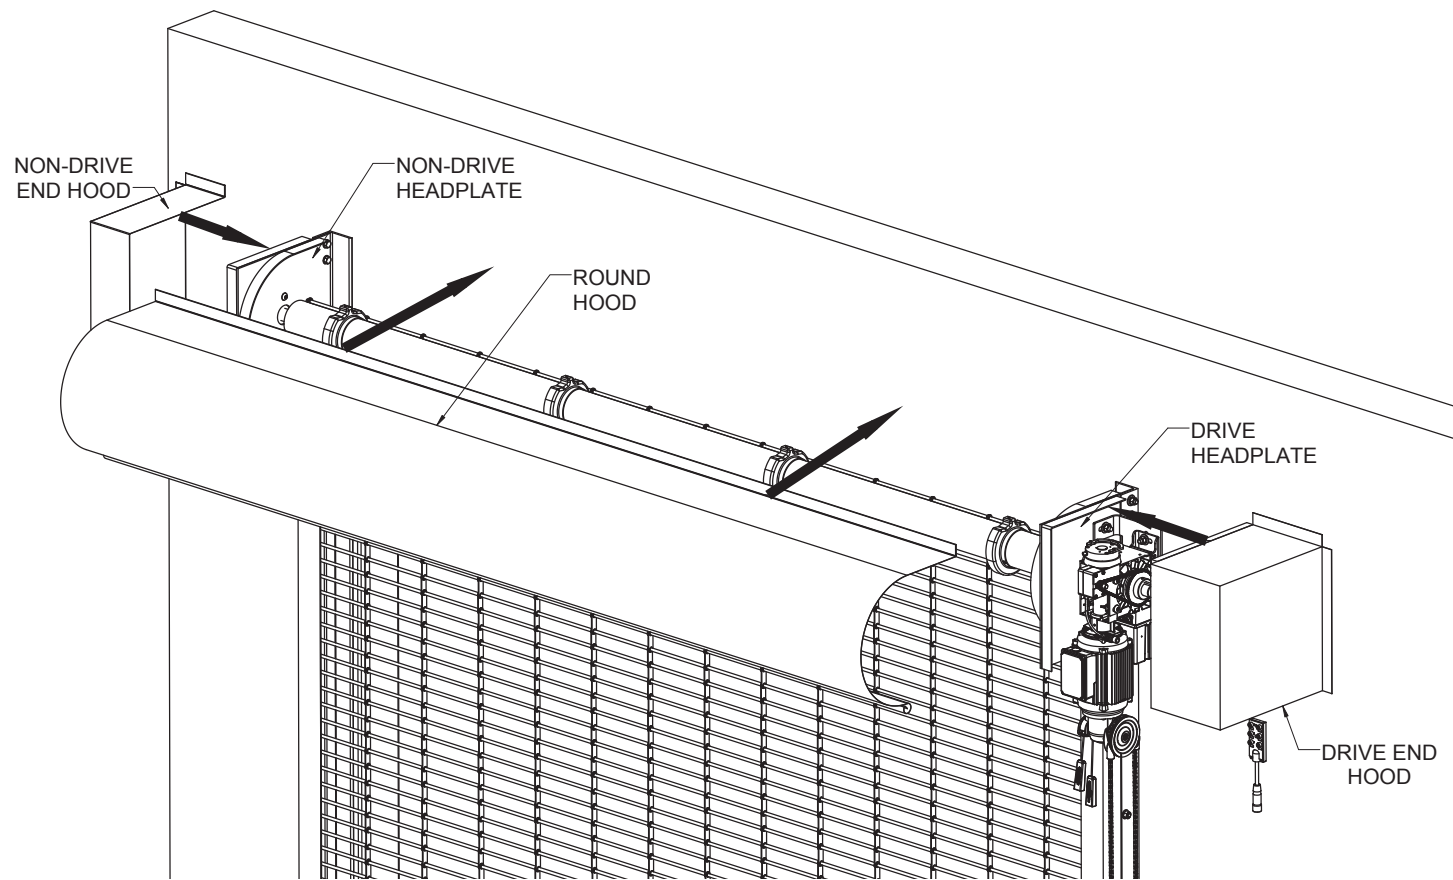

Fig 4-W
- B. Place the hood over the hood bands or straps on the headplates (and, if provided, hood supports) and **against** the wall, **Fig. 4-W**.
- B. Position brush seal against grille lintel as shown, **Fig. 4-X**.